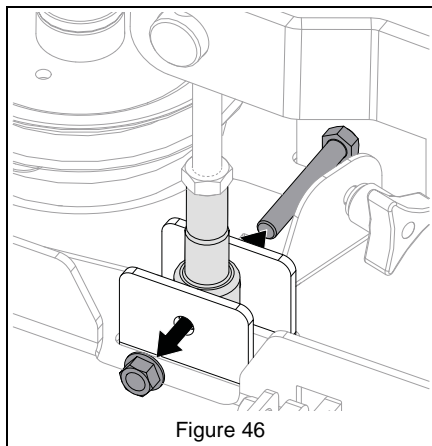

Figure 46
8. Remove hardware retaining deck lift links. Retain hardware for reinstallation. See Figure 46.